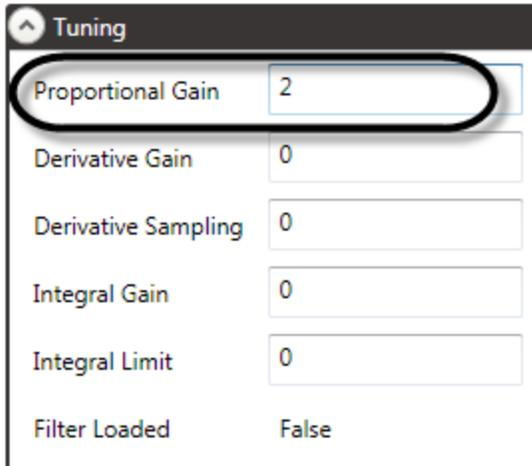

Figure 99
2. Increase the **Proportional Gain** value by 1 (Figure 99).